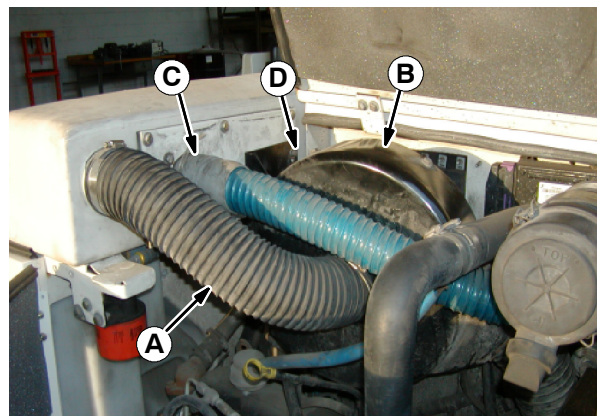

FIG. 1
2. Remove the hose (A) from the fan (B). Refer to Fig. 1.
3. Disconnect the end of hose (C) attached to the machine from the machine and move loose end of hose out of the way. Refer to Fig. 1.
4. Cut cable ties holding hydraulic hoses from fan (B) to other hoses. Refer to Fig. 1.
5. Remove the hardware (D) holding the fan (B) onto the machine and carefully set the fan on top of the engine. **Do not** break or remove any hydraulic hose connections to the fan. Refer to Fig. 1.
29. Reinstall items removed in Step 2 through Step 5. Refer to Fig. 1.